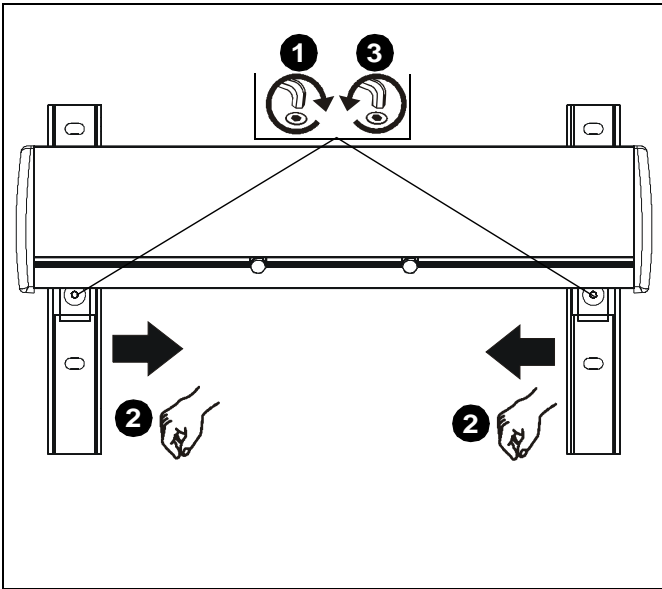

Figure 31
1. Loosen two flat head cap screws on wall bracket. (See Figure 31)
2. Slide wall brackets to corresponding width of studs. (See Figure 31)
3. Tighten two flat head cap screws on wall bracket. (See Figure 31)